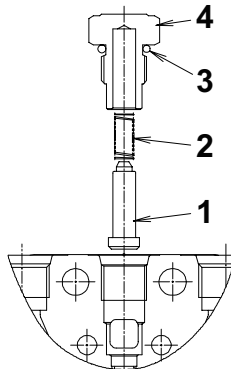

Fig. 2 Check valve section
(2) Standard type (P3 Inlet, travel, and anti-drift valve sections (See Fig. 2))